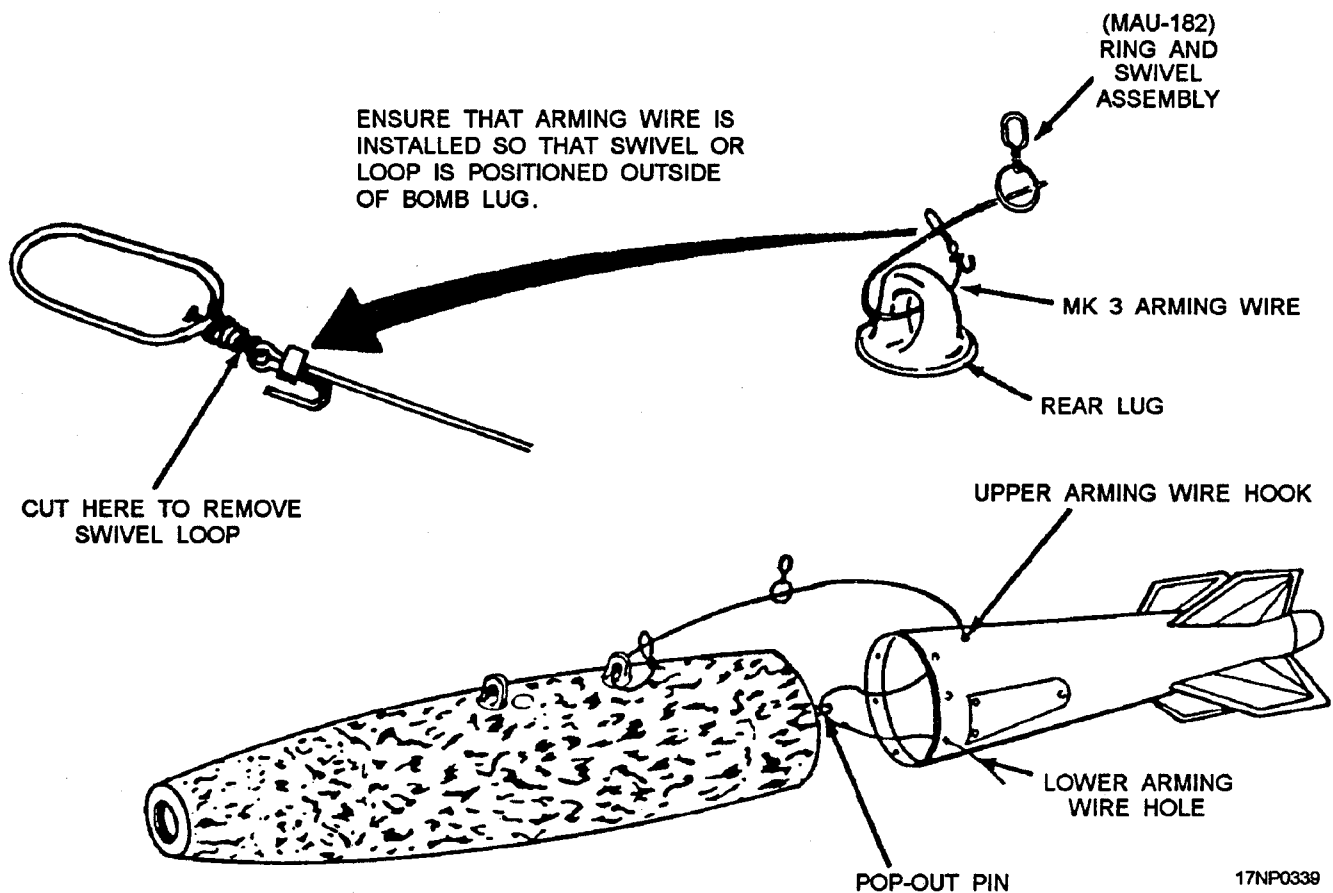

Figure 13-8.—Conical and BSU-33 series fin installation.
7. Attach the arming wire to the aft lug (fig. 13-8). Thread the free end of Mk 3 arming wire from aft bomb lug through MAU-182 swivel ring and arming wire hole in top of fin.